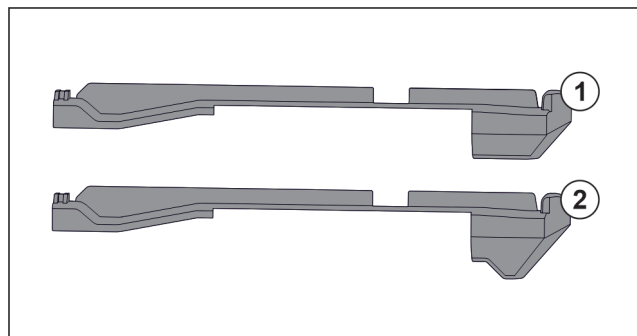

Fig. 74 Comparing attachments
There are two different attachments in the appliance. The attachment above the lowest drawer Fig. 74 (2) has a three-cornered edge. All other attachments Fig. 74 (1) have a straight edge.
- Fit attachment Fig. 74 (2) with the three-cornered edge above the lowest drawer.
- Fit attachment Fig. 74 (1) with straight edge in all other positions.